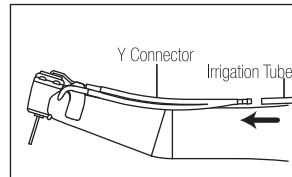

Fig. 4
- 2) Connect the Irrigation Tube to the Y-Connector firmly.(Fig.4)